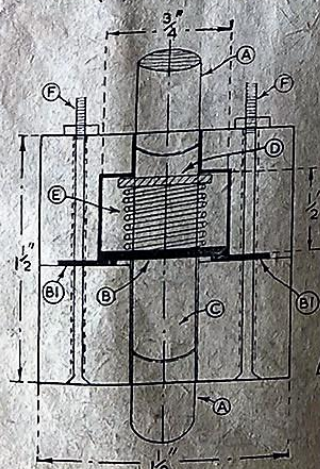

Fig. 1 — Lettered diagram section
The diagrammatic sketch shown in Fig. 1 gives the reader a complete picture of the assembled parts, consisting of a piece of $\frac{3}{8}$ in. tube $\frac{1}{2}$ in. in length (C). Plugs (A) made from dowelling of the same thickness as the tube, are necessary to eliminate the possibility of an electrical shock which would occur if the metal tube was extended to protrude at either end.